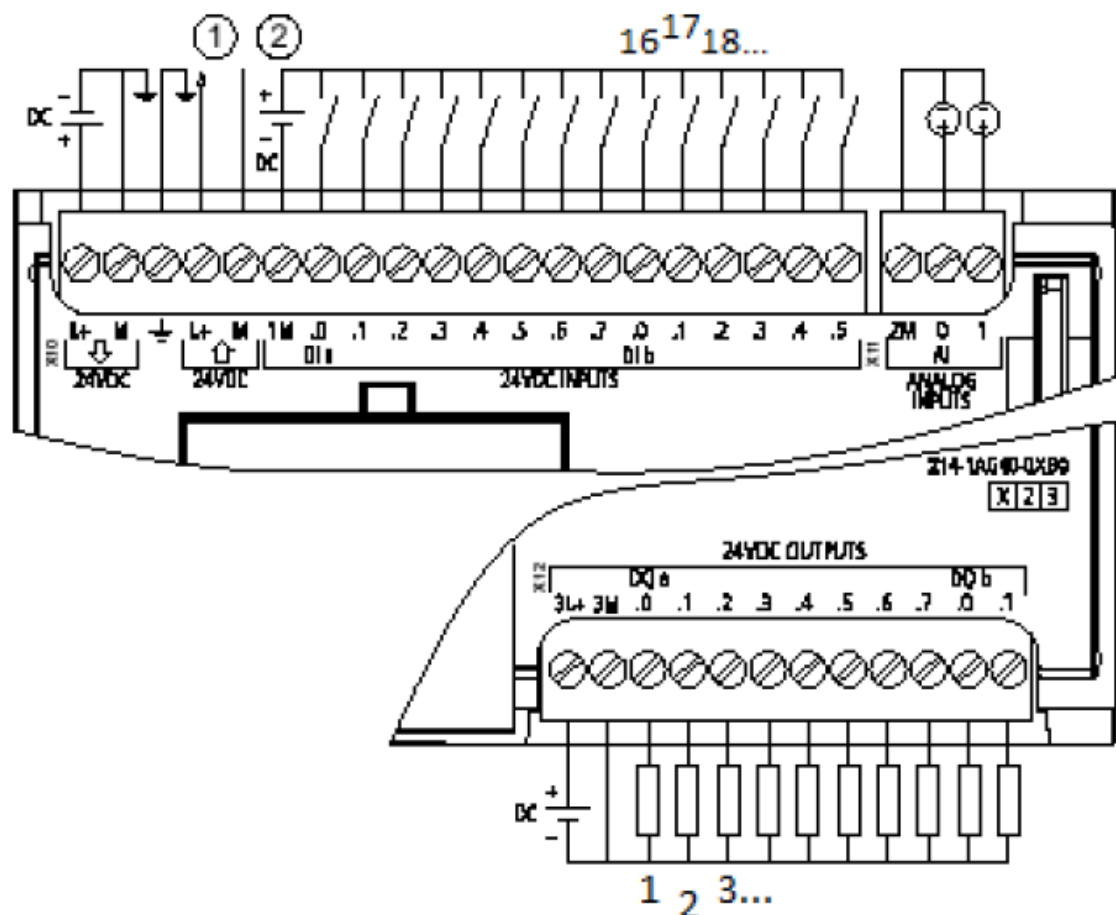

Figure 2 Connecting example
When the relay is connected to the binary output of programmable logic, the output of the logic (eg. Q124.0 true or false) controls the voltage in that channel and thus the relay either pulls or not. Figure 2 shows one example about device connections.
3. Make the necessary connections for the work. Use wires with sockets. You don't need any tools making connections. Connect the relay coil to the output channel (Q0.0) and the feedback contact to the input (I1.0). Find out the correct connector numbers using Figures 2 and 6. The addresses depend on the hardware settings, and it is worth making sure that for digital outputs and inputs 'I address' 0... 1 and 'Q address' 0... 1 are also addressed in the program. Figure 6 shows the terminal numbers of the relay to be used. The relay and its base have different numbers, both of which are shown in the attached figure.